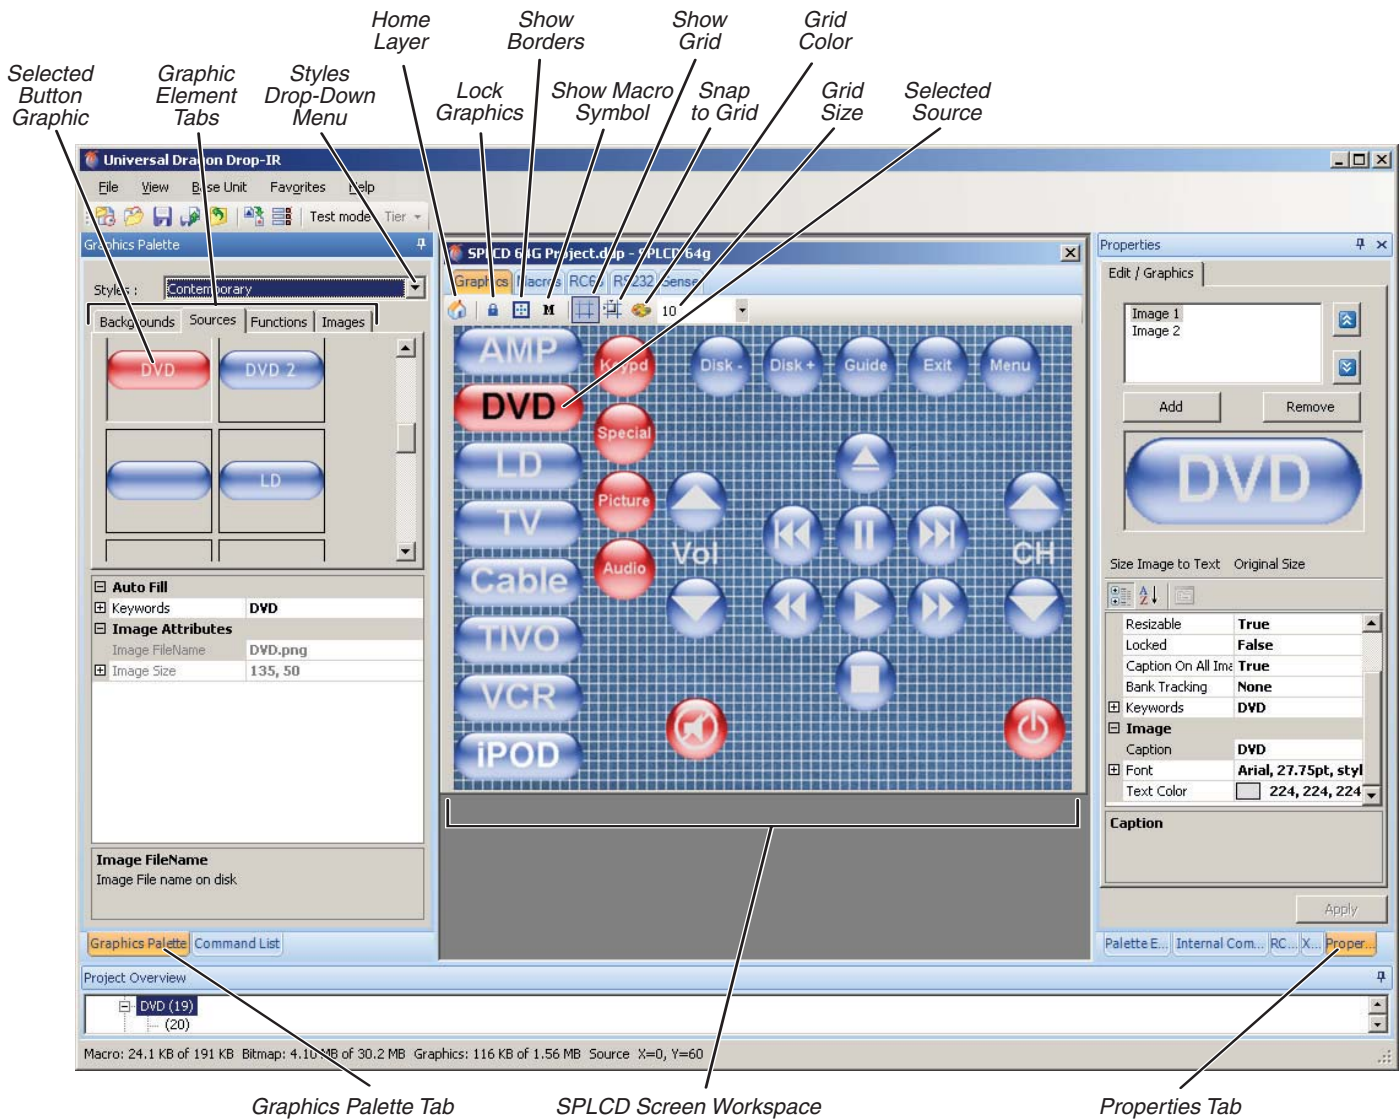

Figure 16: SPLCD touchscreen creation screen
1. Select the *Graphics Palette* tab to activate the Graphic palette window (see *Figure 16*, on page 9).
NOTE: TO HELP WITH POSITIONING ELEMENTS, THE SPLCD SCREEN WORKSPACE HAS AN ALIGNMENT GRID (ALONG WITH A "SNAP-TO" FUNCTION) THAT CAN BE TURNED ON AND OFF. (SEE FIGURE 16.) EACH HAS A BORDER (SHOWN AND HIDDEN BY THE SHOW BORDERS BUTTON) THAT SHOWS THE GTL PLACEMENT RELATIVE TO THE GRID. ONCE ALL GTLS ARE IN PLACE YOU CAN CLICK ON THE LOCK GRAPHICS ICON TO PREVENT ACCIDENTAL MOVEMENT OF THE GTLS.
8. Once all of the Source buttons are in place, select one (it will change to red) and then select the *Functions* Graphic Elements Tab (see Figure 16). Drop the desired Function buttons for that source component onto the source's screen. You can program each button's macro (as described in *Build Macros*, on page 4) now, or at a later time.